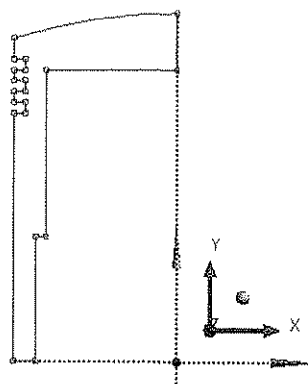

Figure 4-36 Sketch created on the XY plane
- 6. Create the sketch by using the tools available in the **Draw** toolbox, refer to Figure 4-36.
- 7. Add the required constraints by using the tools in the **Constraints** toolbox, refer to Figure 4-36.
8. Similarly, add the required dimensions by using the tools available in the **Dimensions** toolbox, refer to Figure 4-36.